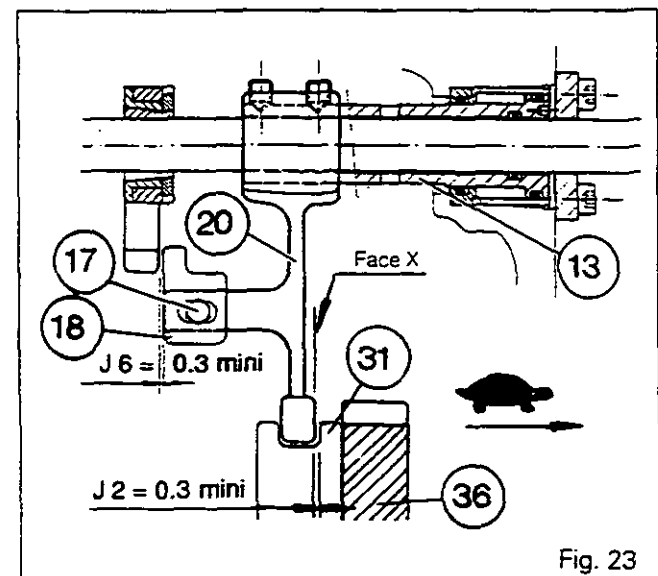

Fig. 23
93. Position the control piston (13) and the slide rod (31) on the low range (Tortoise).
94. Check that there is a play of $J2 = 0.3$ minimum (value determined by setting $J1$) between the pad and the slide rod when the slide rod is resting on the low range gear (36) (Fig. 23).
Note: In the Tortoise position, if face X of the pad of the fork (20) is resting on the slide rod (Fig. 23), increase play $J1$.
96. Slightly loosen the castellated nut (21). Apply a moderate coating of Loctite 270 on the threads of the cone (24).